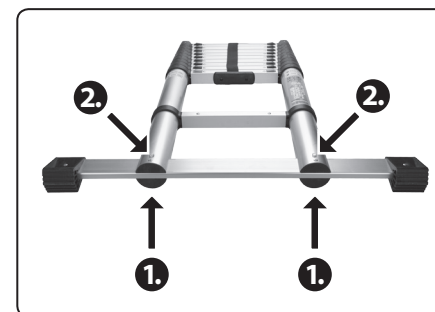

Fig. 2
1. Put the ladder down on the ground and into the grooves on both ladder tubes insert the base with the support feet so that the holes on the base are located in alignment with the holes in the ladder tubes (fig. 2, step 1).
2. Then secure the base to each ladder tube using a bolt so that the bolt head is on the side of the ladder where the locks are on both sides of the rungs (fig. 2, step 2).